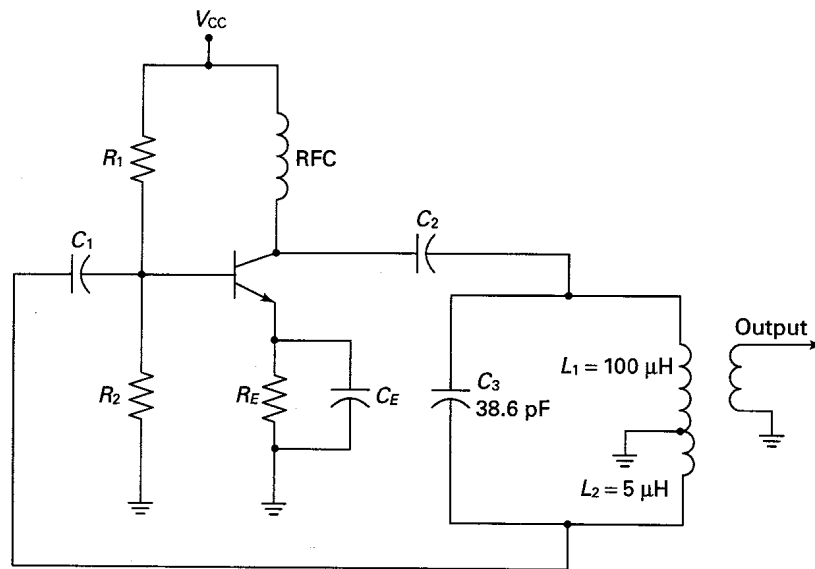

Fig. 2-31
- 2.29** Refer to Fig. 2-31. Calculate the following: (a)  $f_{\text{osc}}$ ; (b) the feedback fraction  $B$ ; (c)  $X_{L_1}$ ,  $X_{L_2}$ , and  $X_{C_3}$ ; (d)  $X_T$  (net reactance) of the  $L_2 C_3$  branch.
- 2.30** Refer again to Fig. 2-31. If  $C_3$  is increased to  $154.4 \text{ pF}$ , calculate: (a)  $f_{\text{osc}}$ ; (b)  $X_{L_1}$ ,  $X_{L_2}$ , and  $X_{C_3}$ ; (c)  $X_T$  of the  $L_2 C_3$  branch.
- 2.31** Refer to Fig. 2-31. Assume that it is desired to obtain an oscillating frequency of  $4 \text{ MHz}$ . If  $C_3 = 25 \text{ pF}$  and  $B$  must equal  $\frac{1}{30}$ , calculate: (a)  $L_T$ ; (b)  $L_1$  and  $L_2$ ; (c)  $X_{L_1}$ ,  $X_{L_2}$ , and  $X_{C_3}$ ; (d)  $X_T$  (net reactance) of the  $L_2 C_3$  branch.
- 2.32 Refer to Fig. 2-31. If the ac voltage across  $L_1$  is 24 V p-p, how much ac voltage exists at the base of the transistor? (Use original circuit values.) *Ans.* 1.2 V p-p